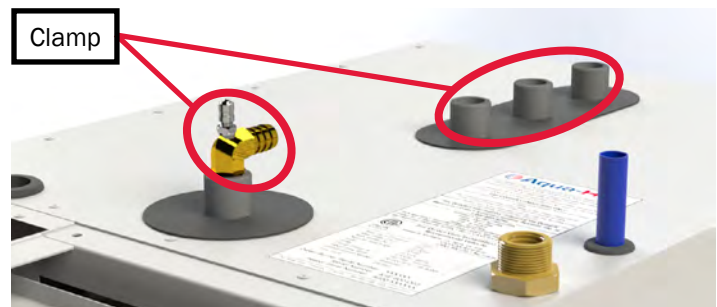

Figure 18
4. Clamp the zone hoses shut to prevent the zones from draining into the Aqua-Hot. See Figure 18.
1. Clamp shut the zone hoses to prevent the zone from draining. See Figure 18.